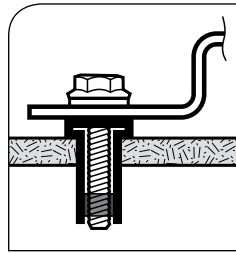

Fig. 8.5. The 5-hole mounting bracket is placed against the flange of the Well-Nut and is secured by the bolt engaging the captive brass nut.
10. Fasten the mounting brackets to the roof surface by inserting the ¼ x 1¼" serrated flange bolt into the Well-Nut (Fig. 8.5). Tighten using a 3/8" wrench to a recommended torque of 15 lbs. When the serrated flange bolt is screwed into the Well-Nut, the material surrounding the well nut bulges slightly securing the structure to the RV roof (Fig. 8.6 & 8.8).